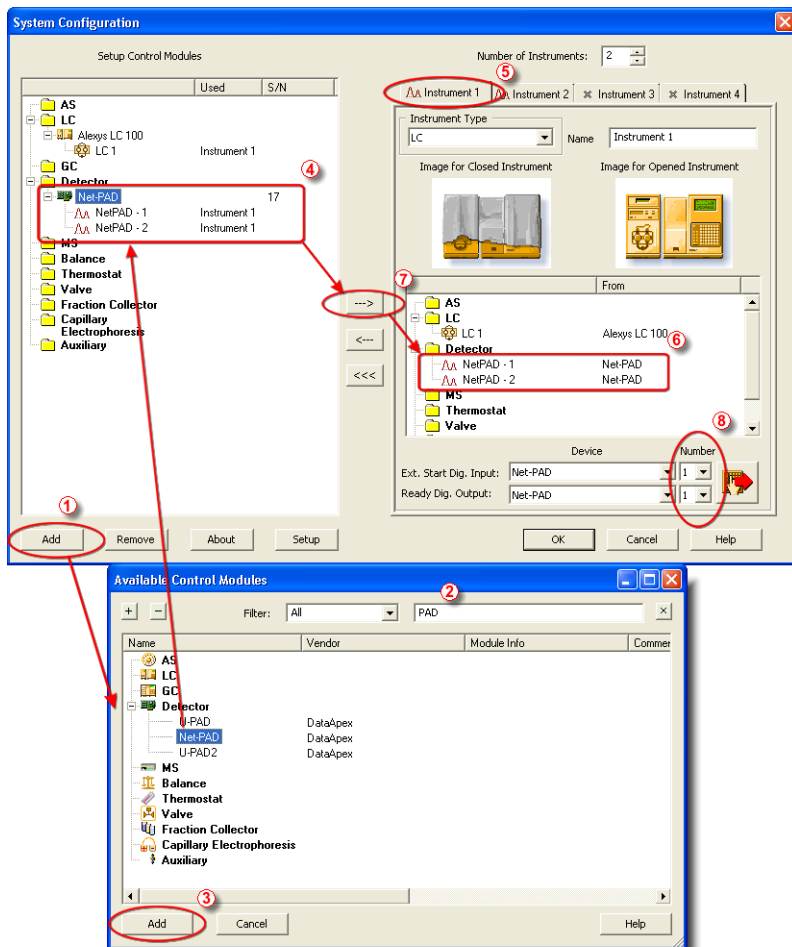

Fig. 8: System Configuration
- Press the *Add* button (1) (See Fig. 8 on pg. 12.) to invoke the *Available*